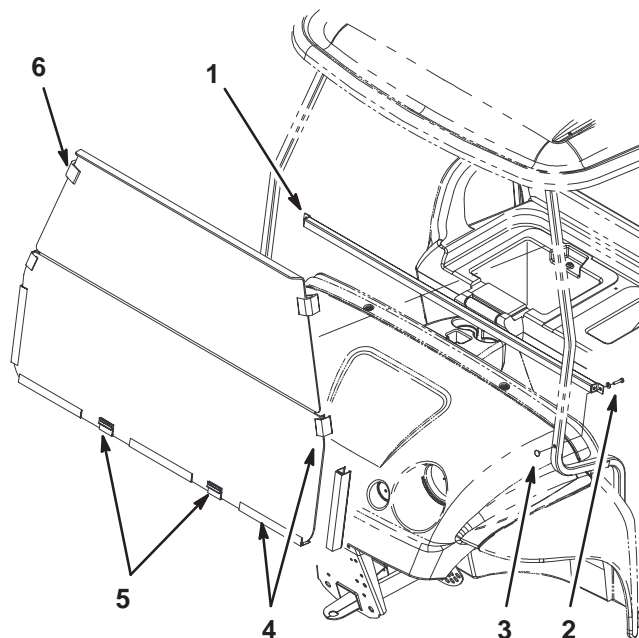

Figure 1
2. Attach the windshield tube to the front support tubes on the canopy using 2 screws, flat washers, and capped nuts (Fig. 1).
4. Install the snap-on clips and receiver clips as shown in Figure 1.
5. Hold the rubber clips (Fig. 1) and attach the top of the windshield to the canopy frame.
6. Attach the snap-on clips on the side of the windshield to the canopy frame. Align the clips on the bottom of the windshield with the windshield tube and press the windshield securely into place (Fig. 1).